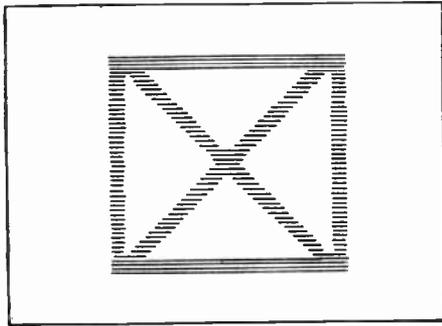

FIG. 6
when at the transmitter any point of the design opens the circuit, the magnet (M) releases the inscribing point (F) so that it makes a mark upon the paper. By this apparatus we obtain the sketch reproduced in points and strokes lying very close to each other in tint or color upon a white ground, Fig. 6.